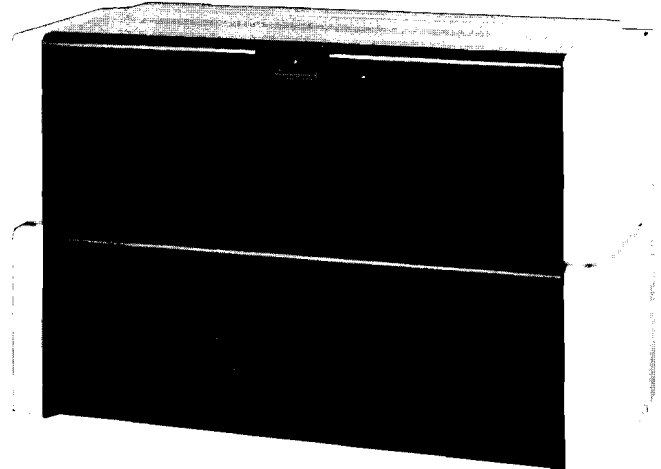

figure 1. 1922 Apparatus Case
1.01 The 1922 Apparatus Case (figure 1) is a general-purpose Type-16C cabinet that provides enclosed mounting for a variety of key telephone unit (KTU) or other equipment. Flexible design permits this case to be used with Tellabs Type 10 (or equivalent) Mounting Shelves, small-load power supplies and ringing generators, or other equipment designed for apparatus-case installation. Suitable for tabletop placement or wall-mounting, the 1922 features clean, modern styling and a basic off-white color that make it an attractive addition to any central office, computer room, or similar environment.